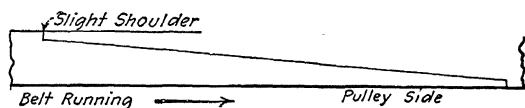

FIG. 260.
**Cementing Belts.**—Cementing together the lapped ends of a belt, Fig. 260, is considered the best method of fastening. The ends are shaved down as shown so that the lapped portion is not noticeably thicker than the rest of the belt, and the shaved parts should be flat and fit snugly together.